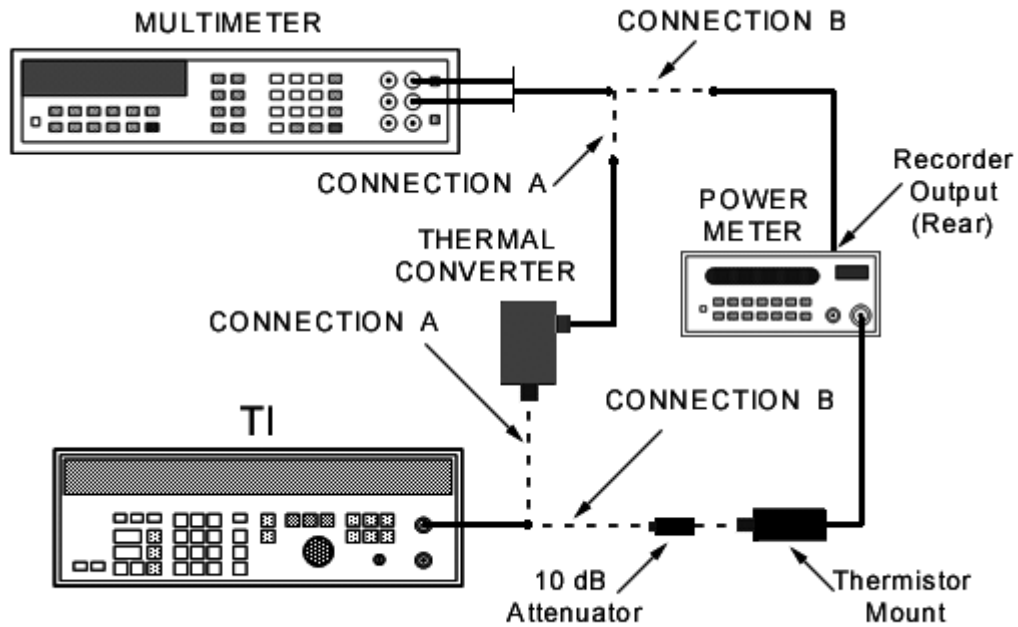

Figure 4. Flatness.
- (1) Connect equipment as shown in figure 4, CONNECTION A.
- (2) Set **FREQUENCY** to 100 kHz and press +13.01 dBm.
- (3) Record multimeter reading.
- (4) Press +12.91 dBm.
- (5) Record multimeter reading.
- (6) Calculate the allowable tolerance by subtracting reading in (5) above from reading in (3) above.
- (7) Record tolerance.
- (8) Reset amplitude to +13.01 dBm.
- (9) Set TI to the following frequencies, allow multimeter reading to settle and record the reading: 200 Hz, 50 kHz, 500 kHz, 1 MHz, 5 MHz, and 10 MHz (see **NOTE** above).
- (10) The result for each frequency must indicate the reading of (3) above  $\pm$  the tolerance established in (7) above.
- (11) Disconnect figure 4, CONNECTION A, equipment and reconnect as shown in figure 4, CONNECTION B.
- (12) Press TI **FREQUENCY** to 10 MHz and **AMPLITUDE** to +13.01 dBm.
- (13) Adjust power meter **CAL FACTOR** control set for power sensor.
- (14) Record multimeter reading.
- (15) Press +12.86 dBm.
- (16) Record multimeter reading.
- (17) Calculate the allowable tolerance by subtracting reading in (16) above from the reading in (14) above.
- (18) Record tolerance.
- (19) Reset amplitude to +13.01 dBm.
- (20) Set the TI to the following frequencies and record the multimeter readings: 20, 30, 40, 50, 60, 70, and 80 MHz.
- (21) The result for each frequency must indicate the reading of (19) above  $\pm$  the tolerance established in (18) above.